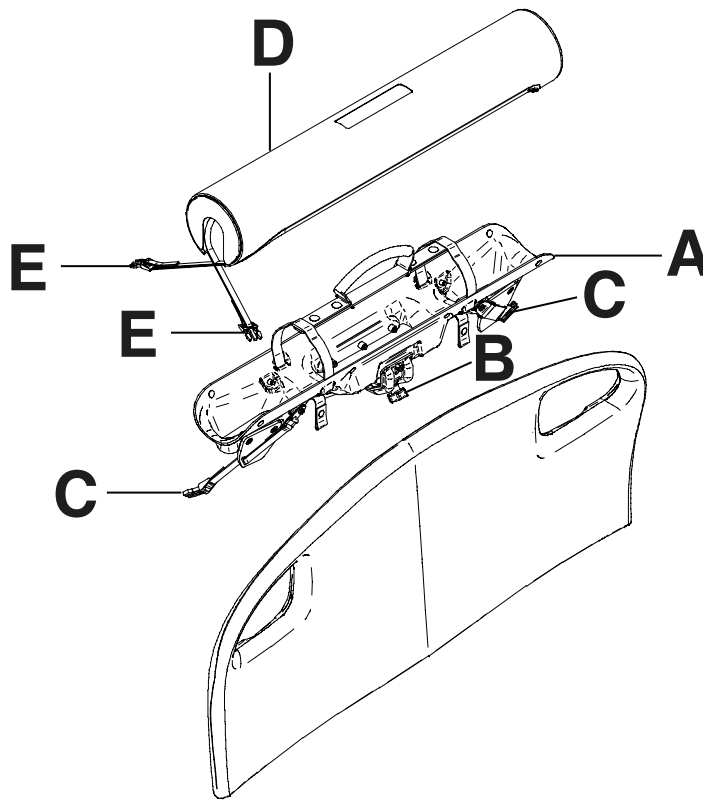

Figure 101: Right fit oxygen bottle holder
1. Place the oxygen bottle holder on top of the headboard (A) (Figure 101 on page 104).
2. Screw on the oxygen bottle holder clasp onto the headboard (B) (Figure 101 on page 104) to secure the bottle holder to the product.
3. Route the bottom straps (C) through the headboard handles (Figure 101 on page 104).
6. Place the oxygen bottle holder cover on top of the oxygen bottle (D) (Figure 101 on page 104).
7. Fasten the oxygen bottle holder cover straps together (E) (Figure 101 on page 104).